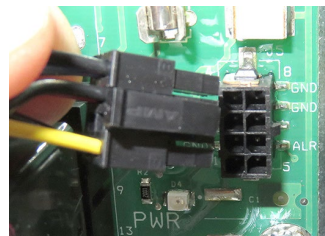

Figure 20
23. Connect the 8-pin micro-mate harness connector to the interface board (see Figure 20).